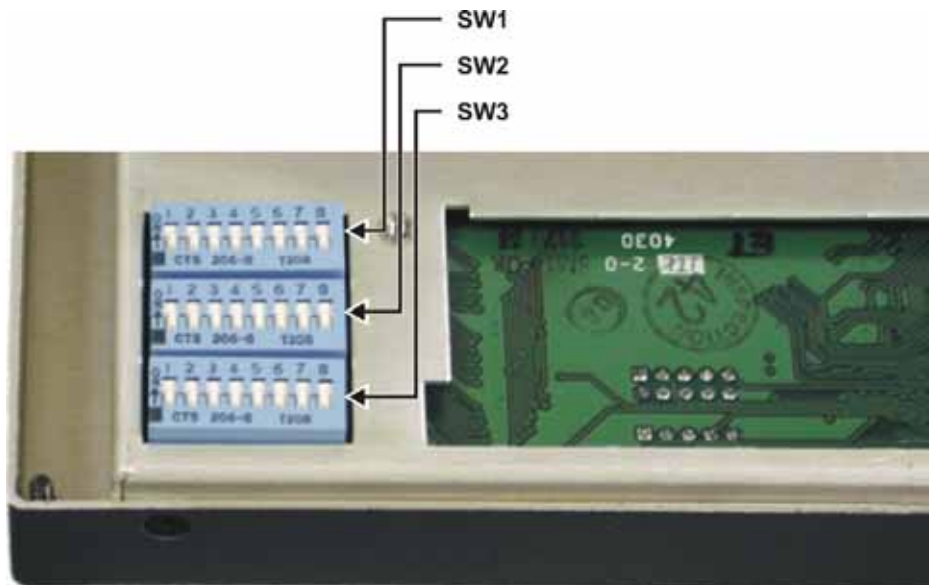

Figure 1-7 Panacea DIP Switch Locations
- 1 Remove the front panel from the Panacea frame and locate DIP switches SW1, SW2, and SW3 as shown in Figure 1-7.